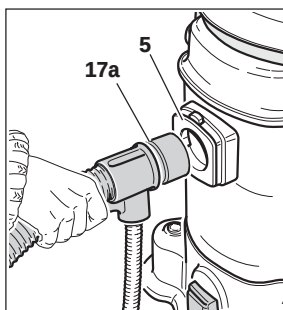

Fig. 03
COMPLETE FLEXIBLE HOSE GROUP (fig. 03) - Insert the revolving quick clasp (17a) of the flexible hose (17) into the vacuum connection (5).